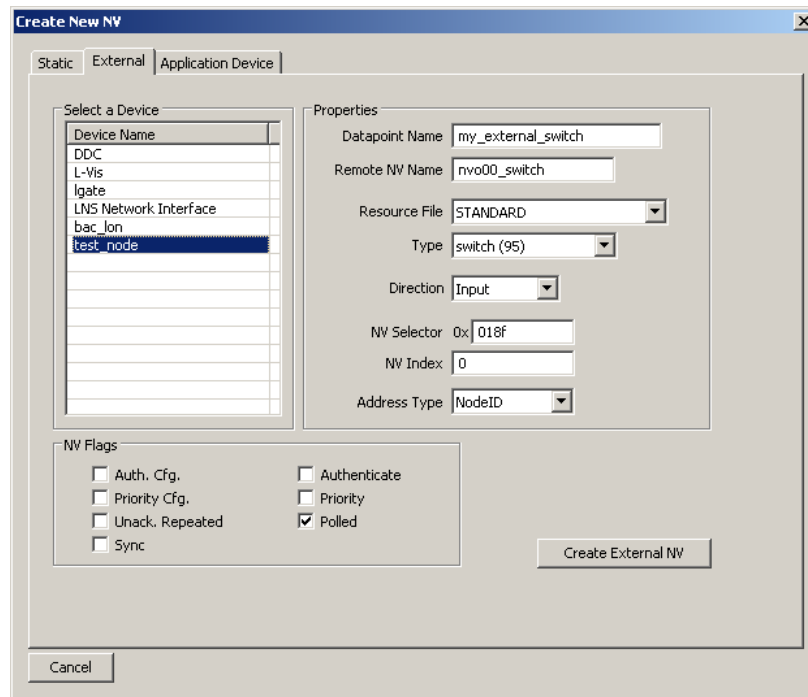

Figure 109: Create a new external NV.
3. Click on the tab **External** as shown in Figure 109.